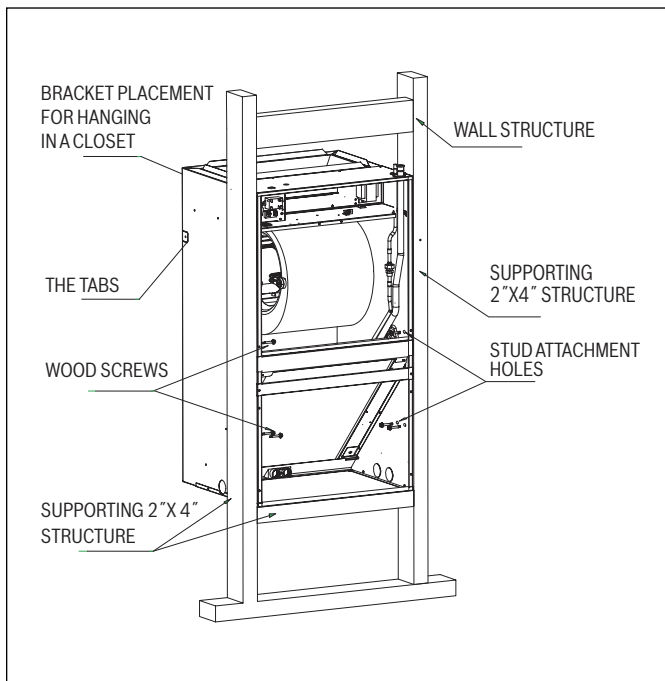
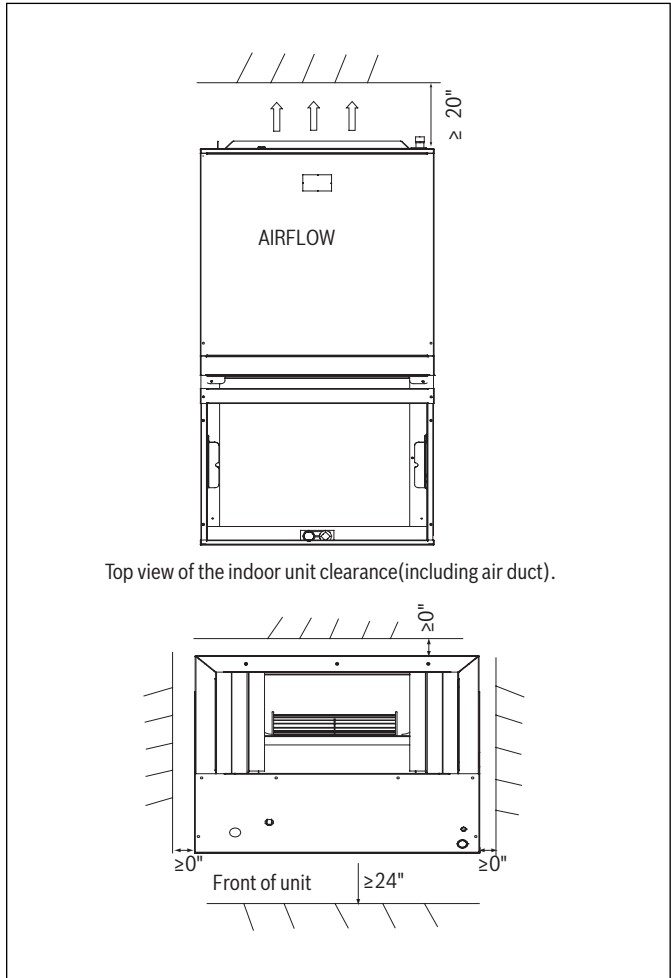

Figure 6 Frame Mount
Figure 7 Space for frame mount
The air handler comes with 6 clearance holes (3 on each side). These holes are used to mount the air handler inside of a frame structure (see Figure 6). When mounting in this fashion, make sure that the wood screws are mounted from within the air handler and not from outside the unit in order to avoid damaging the coil. If the frame does not provide support in the front of the unit and additional support is needed, open up the tabs and fix the unit to the frame or other support structure with screws. Select a solid and level site to ensure proper installation of the frame mount. Verify that there is sufficient space for installation and maintenance (see Figure 7).
The (6) wood screws are not provided with the unit. #12 x 1 1/2" wood screws are recommended. When the unit is installed on a wood frame, the screws should be used to fix the unit to the studs. If they are not used, the unit may fall down or cause other damage. See Figure 6 for frame mount installation.
i The installed unit must have the required clearances as shown in Figure 7. Failure to follow these instructions may result in equipment damage and/or premature equipment failure.